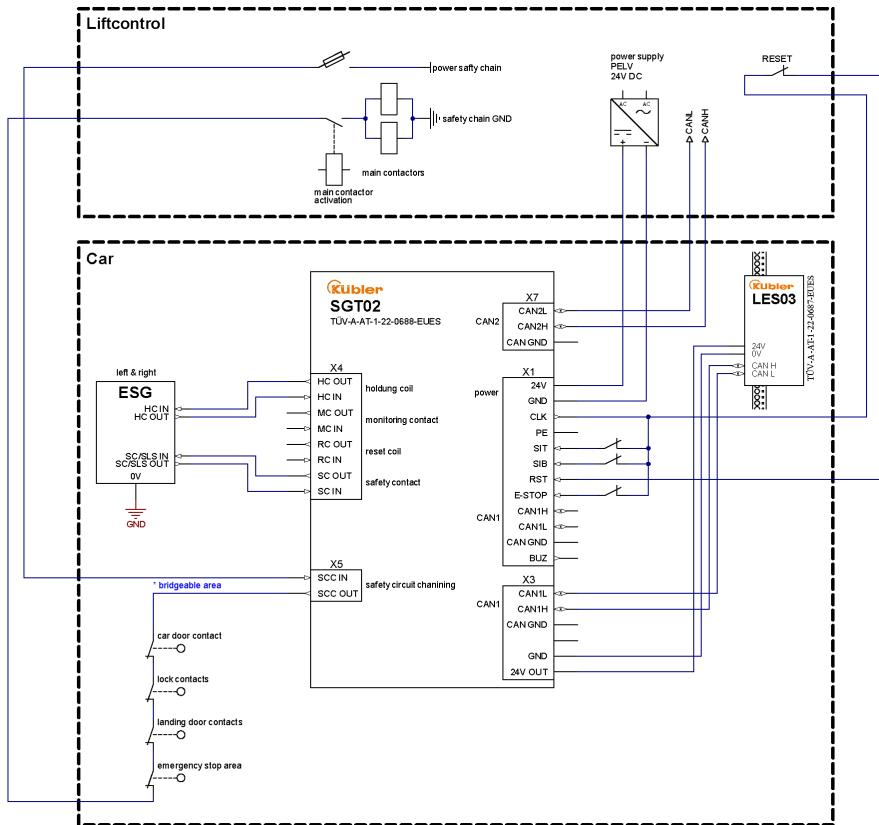

Fig. 1: Example without reset of the electromechanical safety gear (ESG).
- Variants without resetting device (8.SGT02.x2xx.xxxx) must be connected according to Figure 1 [▶ 64].